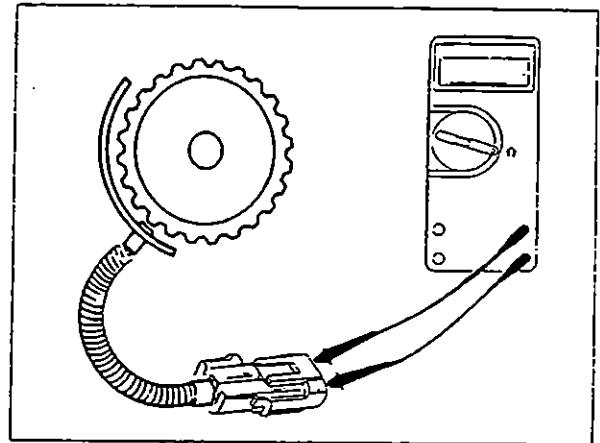

Fig. 1.1.36
**Correction:** Check that connections are tight with no evidence of corrosion. Disconnect harness at the control module. Measure resistance between tach sender wires; 50 - 300 ohms is a good reading (Fig. 1.1.36). The Motorola 7EP2033 or Volvo/White 13603-0013 will read 245-255 ohms.